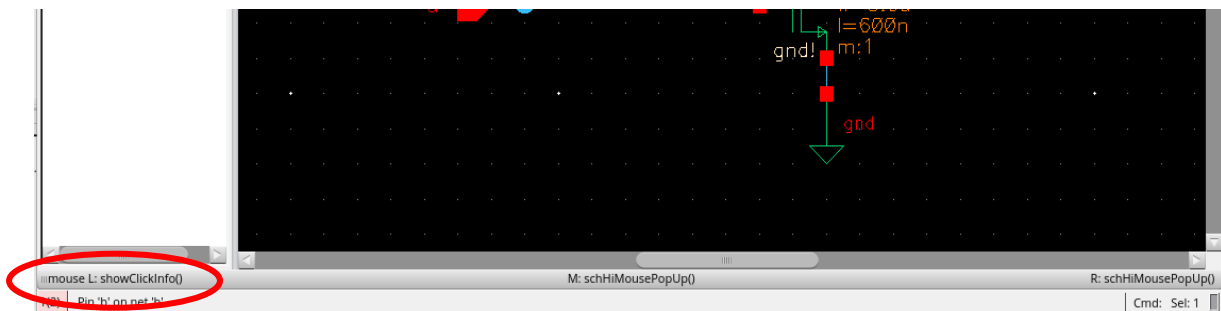

Figure 2: Mode Indicator Text
- The bottom of the schematic editor window (see Figure 2) shows you the mode you are in. *showClickInfo()* is the normal mode